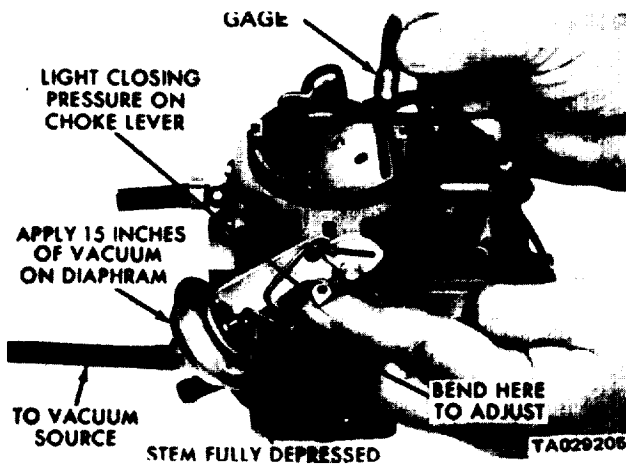

Figure 12-15. Adjusting Choke Vacuum Test.
c. Insert a 0.110-inch feeler gage between the choke valve and the wall of the air horn (figure 12-15). Apply sufficient closing pressure on the lever to which the choke rod attaches to provide a minimum choke valve opening without distorting the diaphragm link. The cylindrical stem of the diaphragm link will extend as the internal spring is compressed. This spring must be fully compressed to measure the vacuum kick adjustment.